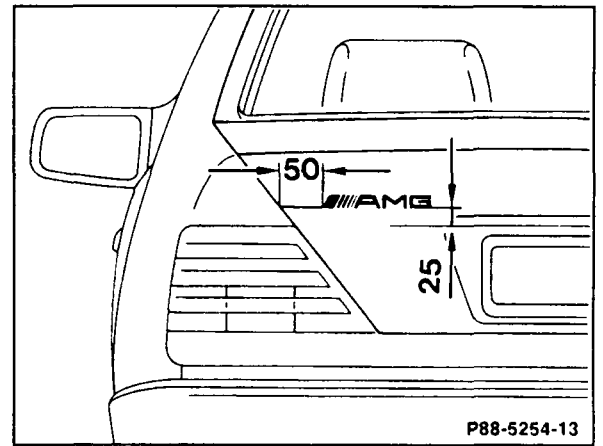

Figure 15
15. Warm AMG logo and mounting surface to 40 °C using heat gun. Apply logo according to Figure 15.